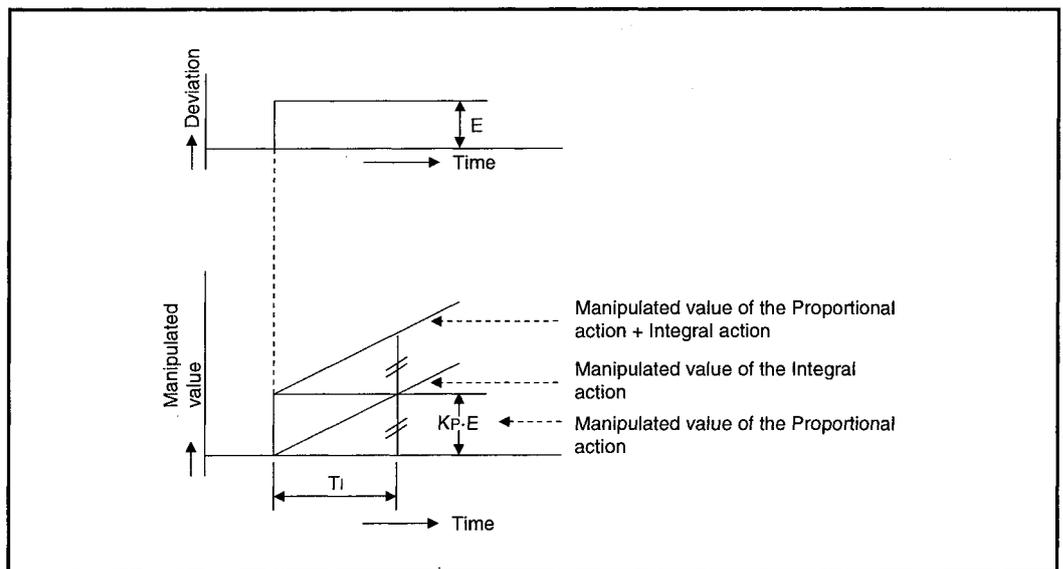

Fig. 1.9 Integral action for step response
(2) In the integral action, the time from the deviation occurrence until the manipulation value of the integral action becomes that of the proportional control action is called the integral time, and is indicated by T_i .
(3) The integral action for the step response when the error value is constant is shown in Figure 1.9.
(4) The integral action is used as a PI action in combination with the proportional action, or PID action in combination with the proportional and derivative actions.